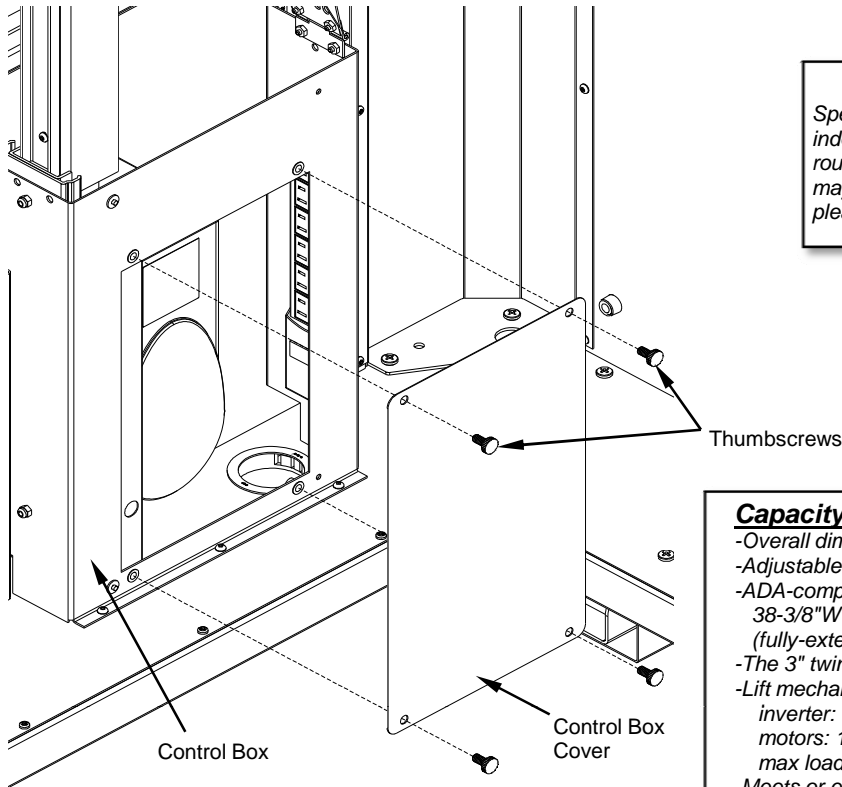

Figure 4
- A. To access the control box and power strip, remove the (4) thumbscrews. **Figure 4.**